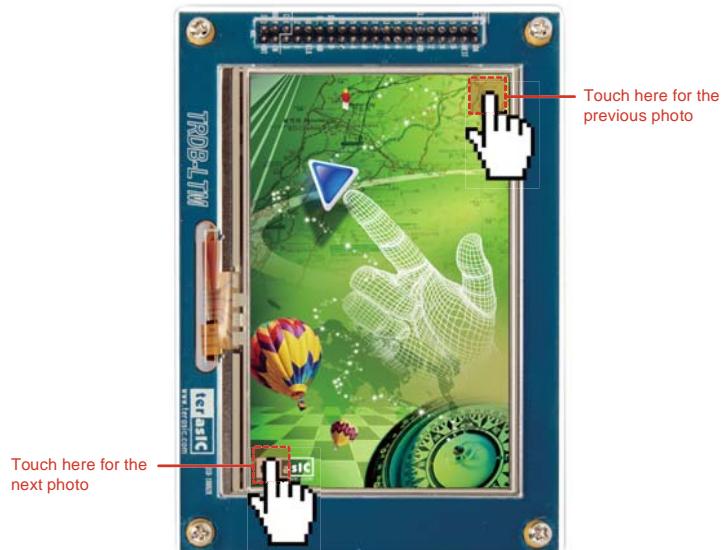

Figure 2.4. The touch function of changing displayed photo
13. Touching the left bottom corner and top right corner of the LTM touch panel to display the next and previous photo respectively as shown in Figure 2.4.